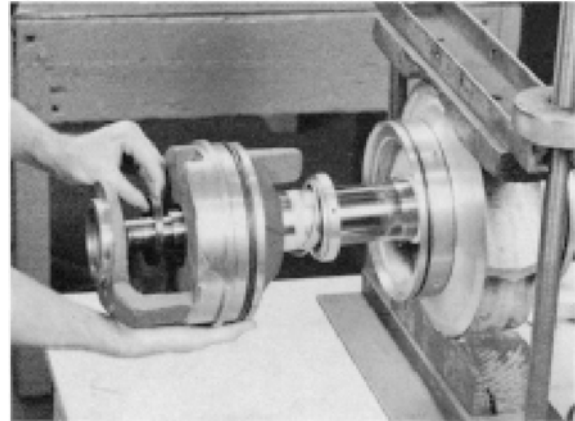

FIGURE 42 – REMOVING STUFF BOX AND DEFLECTOR
- Slide both stuffing boxes (3-073-9) off of the shaft, working deflector rings (3-136-9) off the shaft at the same time (See Figure 42).